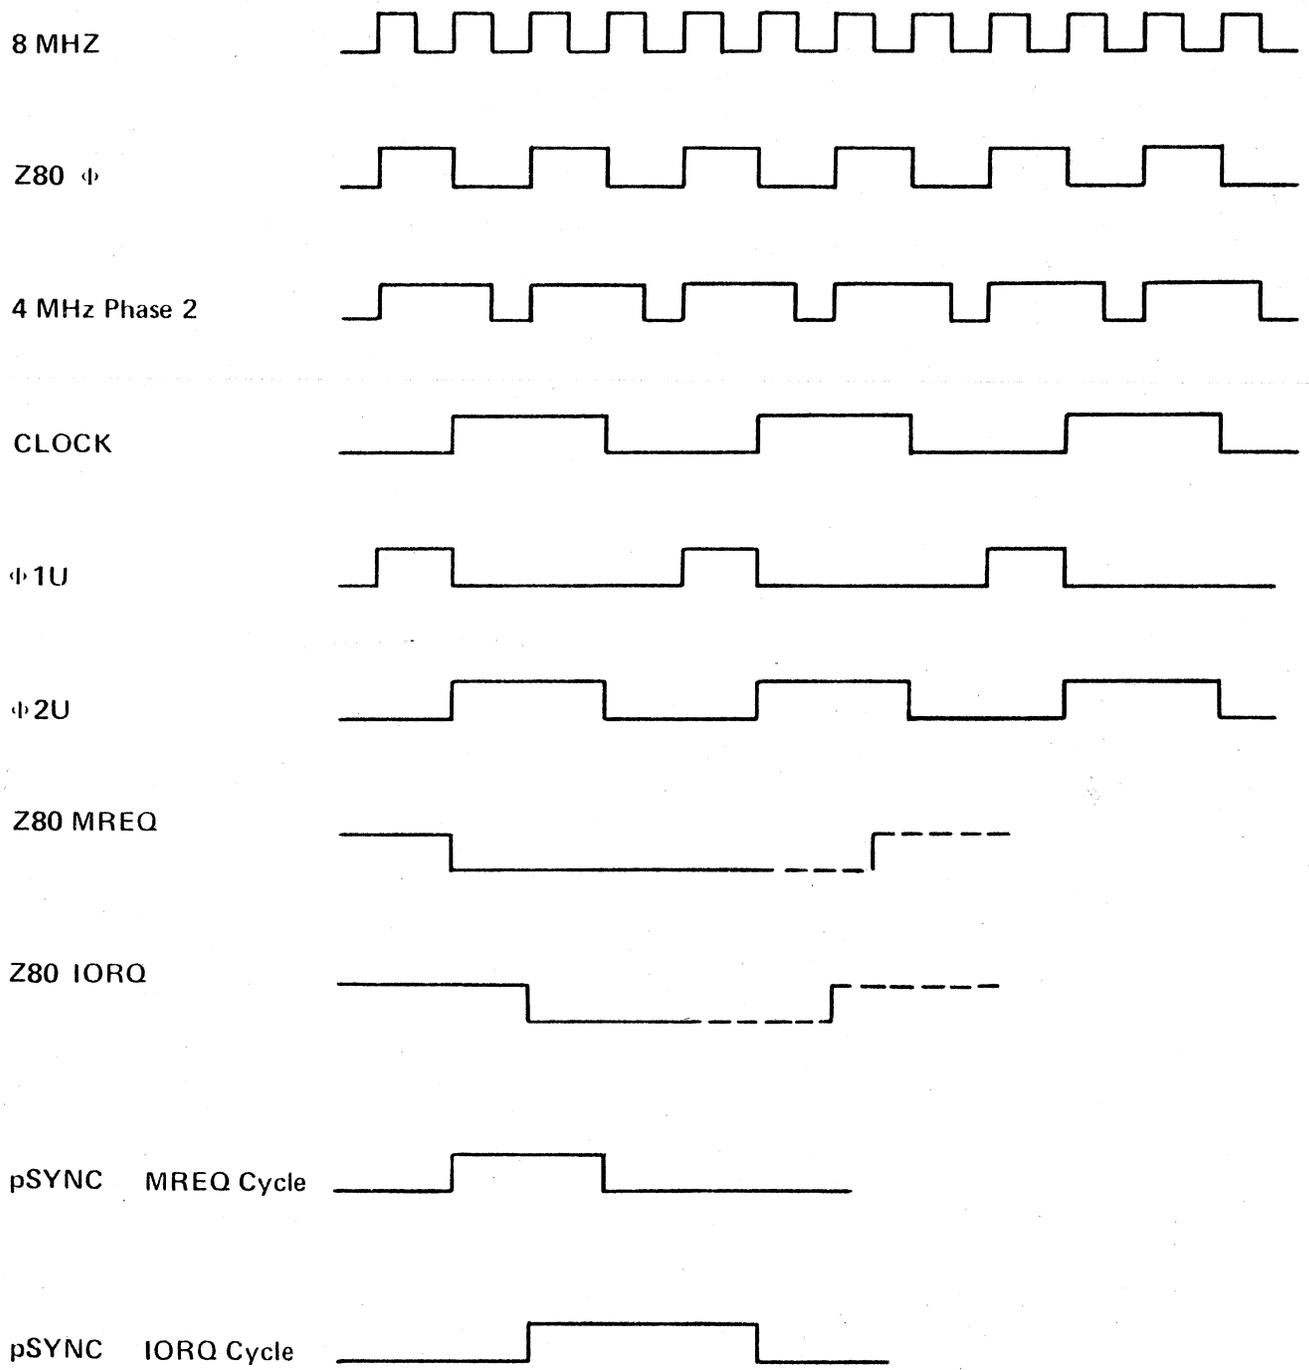

Figure 3-2 – Central Processing Unit Timing
- (1) 1U is the timing reference for UART 1. The UART divides this signal down to a software-controlled data communication line rate of from 110 to 76,800 baud.
- (2) 2U is the timing reference for UART 2. Its function is similar to (1) above.
- (3) CLOCK is a 2 MHz 40% – 60% duty cycle clock supplied to the S-100 Bus.
- (4) 4 MHz PHASE 2 is the master timing signal supplied to the S-100 Bus.
- (5) Φ is supplied to the microprocessor. Refer to Figure 3-2.
- (7) pSYNC identifies the beginning of a processing cycle. Refer to Figure 3-2.
- (8) pWR* signifies the presence of valid data on the Data Out Bus, DO0 – DO7.
- (9) pDBIN requests data from the Data In Bus, DI0 – DI7.
- (10) pHLDA is used in conjunction with HOLD* to coordinate bus master transfer operations.
- (11) MWRT is the write to memory.